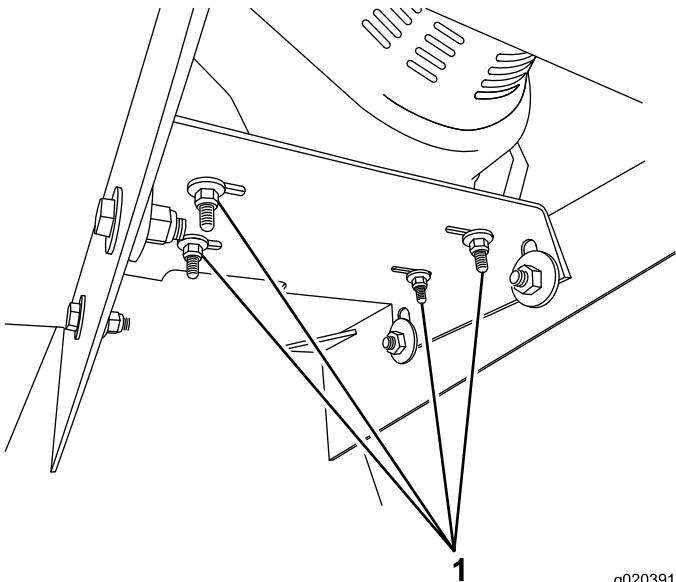

Figure 56
6. Torque the 4 mounting nuts and bolts to 24 N·m (18 ft-lb) each (Figure 56).
5. Loosen the 4 nuts and bolts that secure the engine to the engine mounting plate (Figure 56).